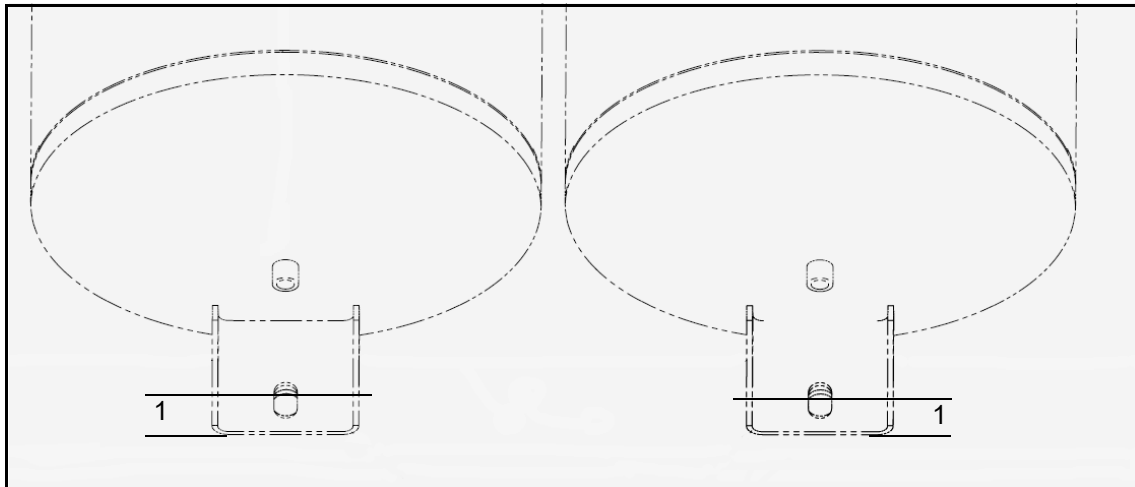

Figure 4. Lower section of the air tank lower bracket.
13. Using the dimension shown in Figure 4, cut off the lower section of the air tank lower bracket as shown in Figure 5.
Item	Figure 4 Description